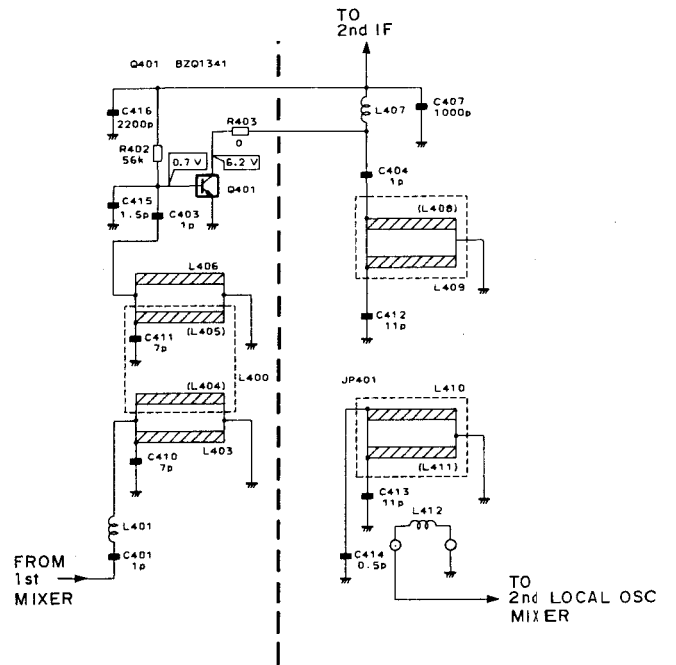

Fig. 7 1st IF Filter and 1st IF Amplifier
7. 1st IF Filter and 1st IF Amplifier (Fig. 7)